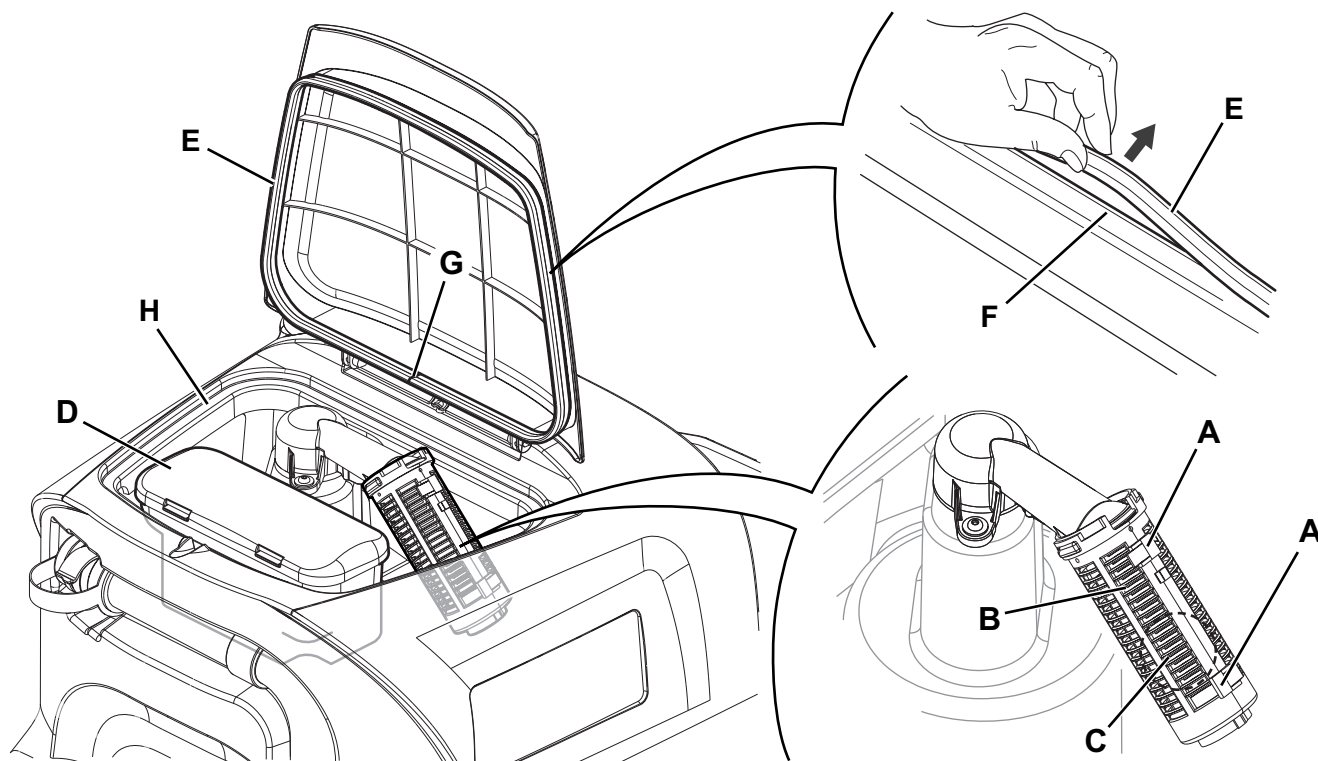

Figure 9
2. Ensure that the machine is off and the operator key (41) is turned to "O".
3. Raise the cover (18).
4. Wash the inside of the tank (17) and the cover with clean water.
5. Drain the water in the tank through the hose (26).
6. Clean the vacuum grid (28), release the fasteners (A, Fig. 9), open the grid (B) and recover the float (C) then clean it carefully and reinstall it.
7. Remove the debris collection tank (D) and open its cover, then clean it carefully and reinstall it on the vacuum hose.
8. Check the condition of the tank cover gasket (E).